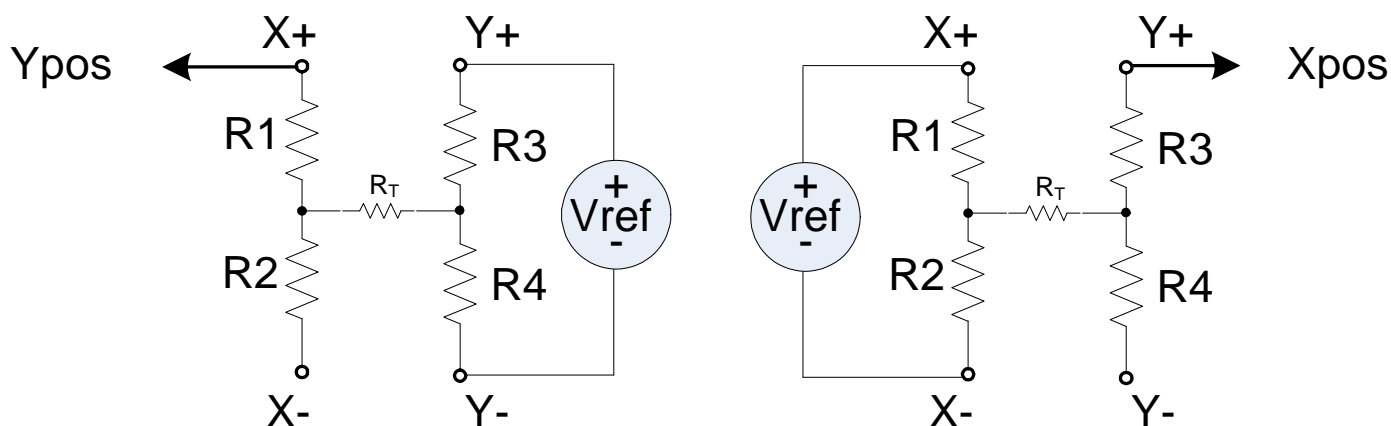

Figure 18. Ordinate (Y) and abscissa (X) coordinates measurement setup
The X coordinate is measured in a similar fashion with the bottom resistive sheet (X) biased to create a voltage divider by R1 and R2, while the voltage on the top sheet is measured through R3. Figure 18 shows the coordinates measurement setup. The resistance R_T is the resistance obtained when a pressure is applied on the screen. R_T is created by the contact area of the X and Y resistive sheet and varies with the applied pressure.